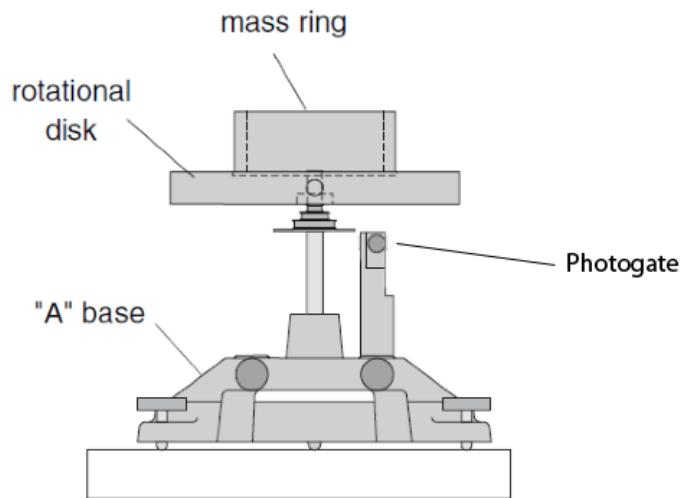

Figure 4: The conservation of angular momentum setup mentioned in Section 3.3
1. Remove the track used in the previous experiment and position the rotational disk directly on the center shaft as shown in Figure 4. The side of the disk that has the indentation for the ring should be up.